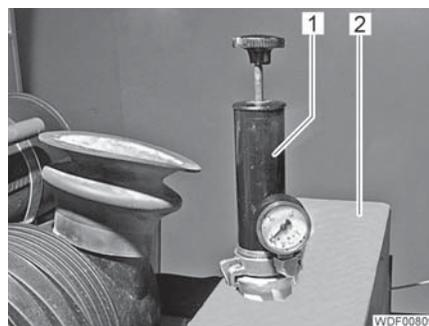

Fig. 8 Leakage inspection
- Remove the cap from the radiator (Fig. 8,2).
- Place the test pump (Fig. 8,1) onto the radiator and lock it.